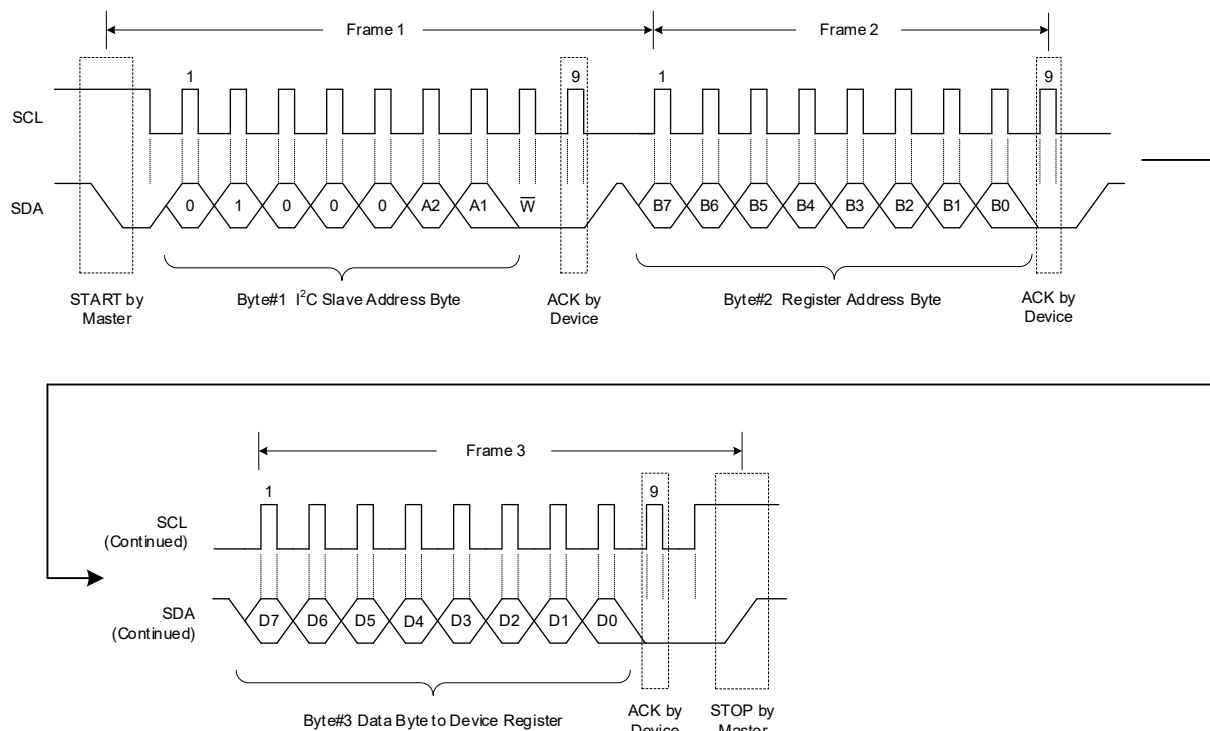

Figure 14. A Single Write Transaction
**WRITE:** If the master wants to write in the register, the third byte can be written directly as shown in Figure 14 for a single write data transfer. After receiving the ACK, master may issue a STOP condition to end the transaction or send the next register data, which will be written to the next address in a slave as multi-write. A STOP is needed after sending the last data.